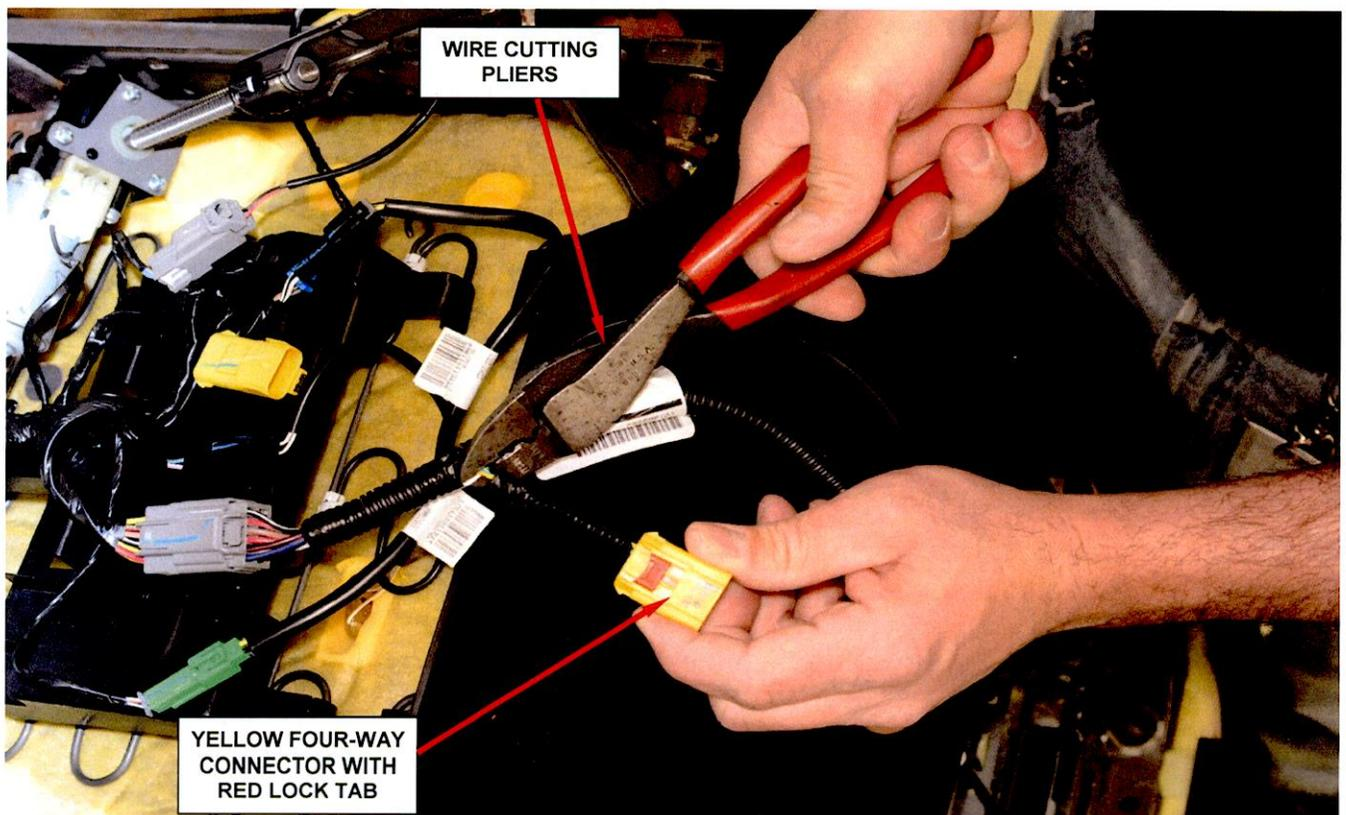

Figure 4 – Cut Off and Discard Yellow Four-Way Wiring Harness Side Connector (Except Challenger Right Side Front Seat)
7. For all models except Challenger right side front seat, cut off and discard the original wiring harness side four-way yellow electrical connector (Figure 4).